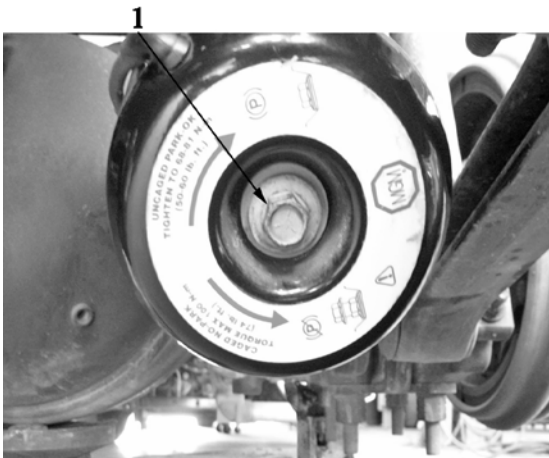

Figure 2. Spring Brake Chamber
6. Locate integral release bolt on back of spring brake chamber (Figure 2).